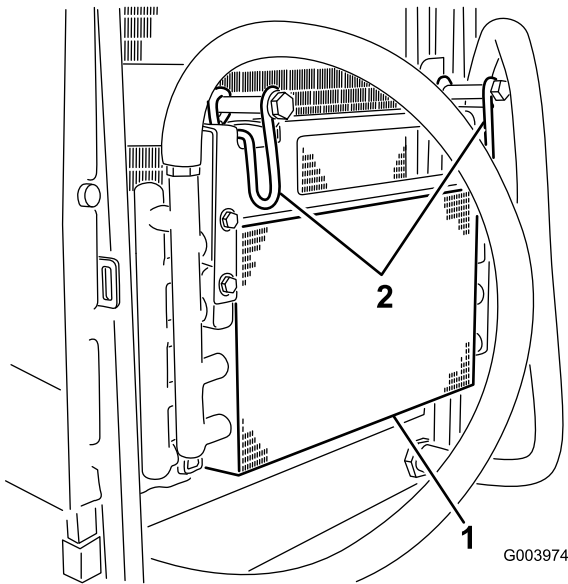

Figure 73
5. Pivot the latches inward to release the oil cooler (Figure 73).